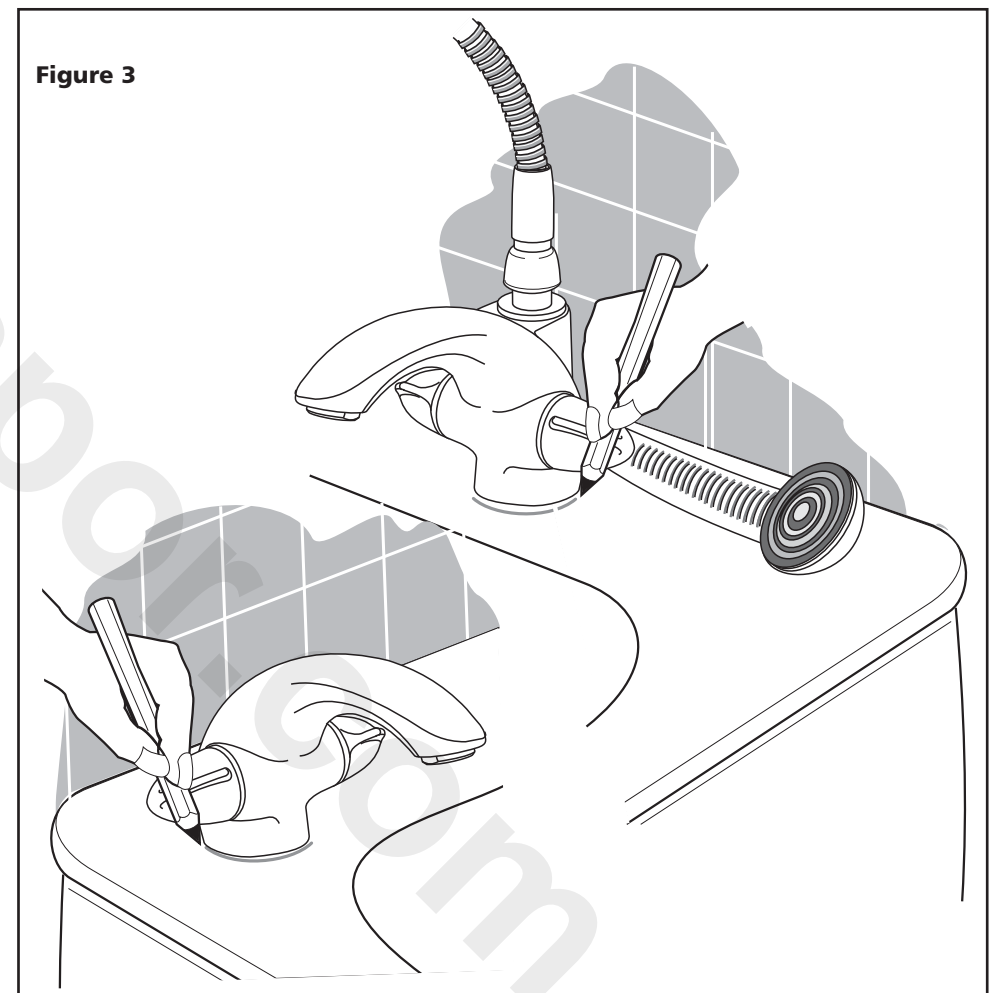

Figure 3
1. Place the monoblock bath filler / bath / shower mixer onto the bath rim and draw around the outline (Figure 3).